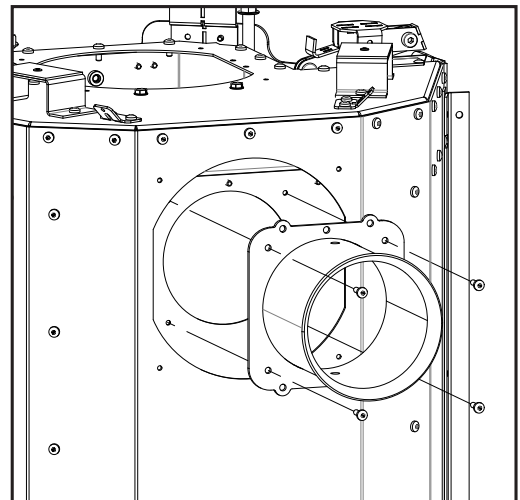

Figure 67: Exhaust Spigot Attachment
10. Attach the exhaust spigot to where the block-off plate was removed (see Figure 67).